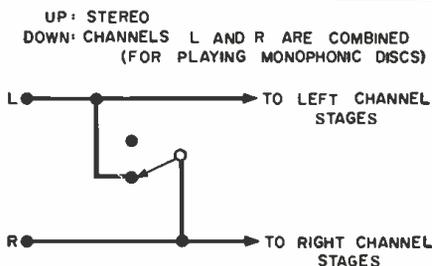

Fig. 11. Switch for combining channels.
3. **Monophonic Disc Switching:** This combines the left and right signals and feeds the sum signal to both channels, as illustrated in Fig. 11. This is desirable when playing a monophonic disc with a stereo cartridge because the audio (lateral) signals are added in-phase, while the rumble (vertical) sig-